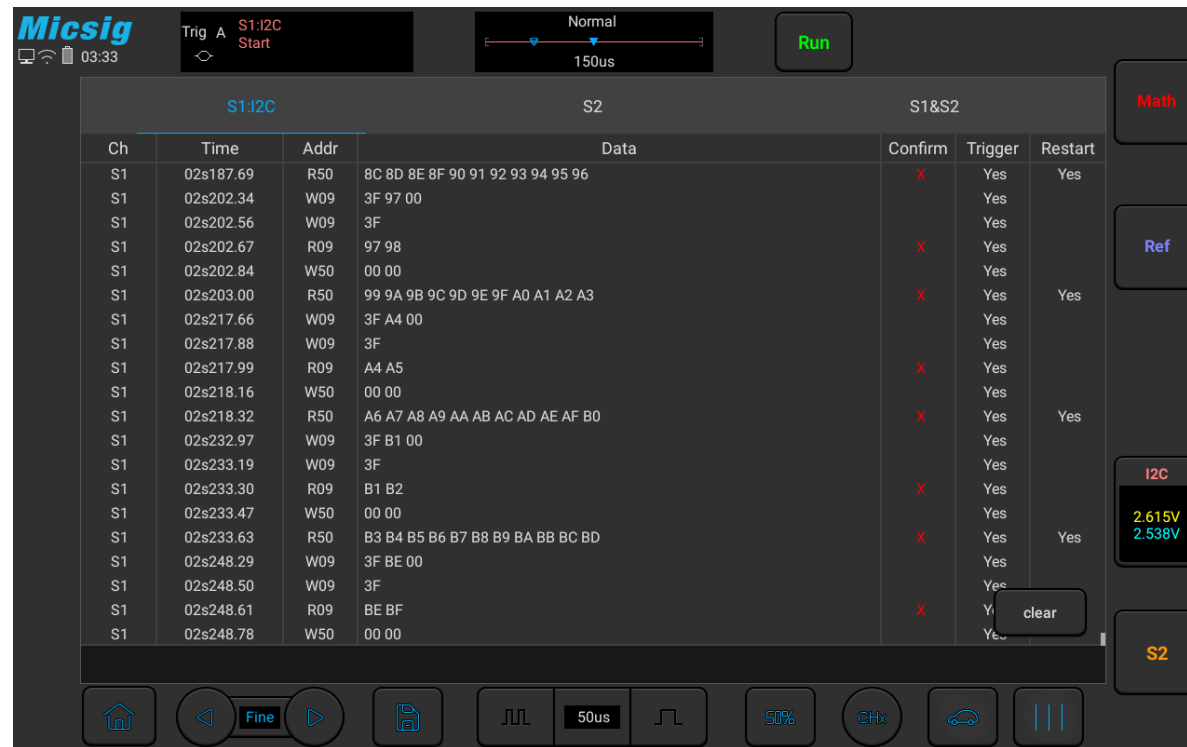

Figure 12-25 I2C Text Interface
**I2C text interface description, as shown in Figure 12-25:**
- (1) “Ch”: bus channel.
- (2) “Time”: intervals between the last read/write operations to current read/write operations
- (3) “Address”: in address bar, “R” means the read operation, and “W” means write operation
- (4) “Data”: data sent by one read and write operation is in the data bar.
- (5) “Ack”: in Ack bar, “X” means Ack bit lost.
- (6) “Trigger”: “Yes” means reach trigger condition.
- (7) “Restart”: “Yes” means reach restart condition.